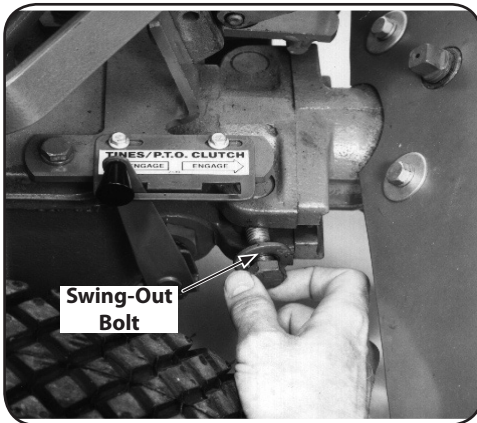

Figure 4-22
- Then move the swing-out bolts out. See Figure 4-22.